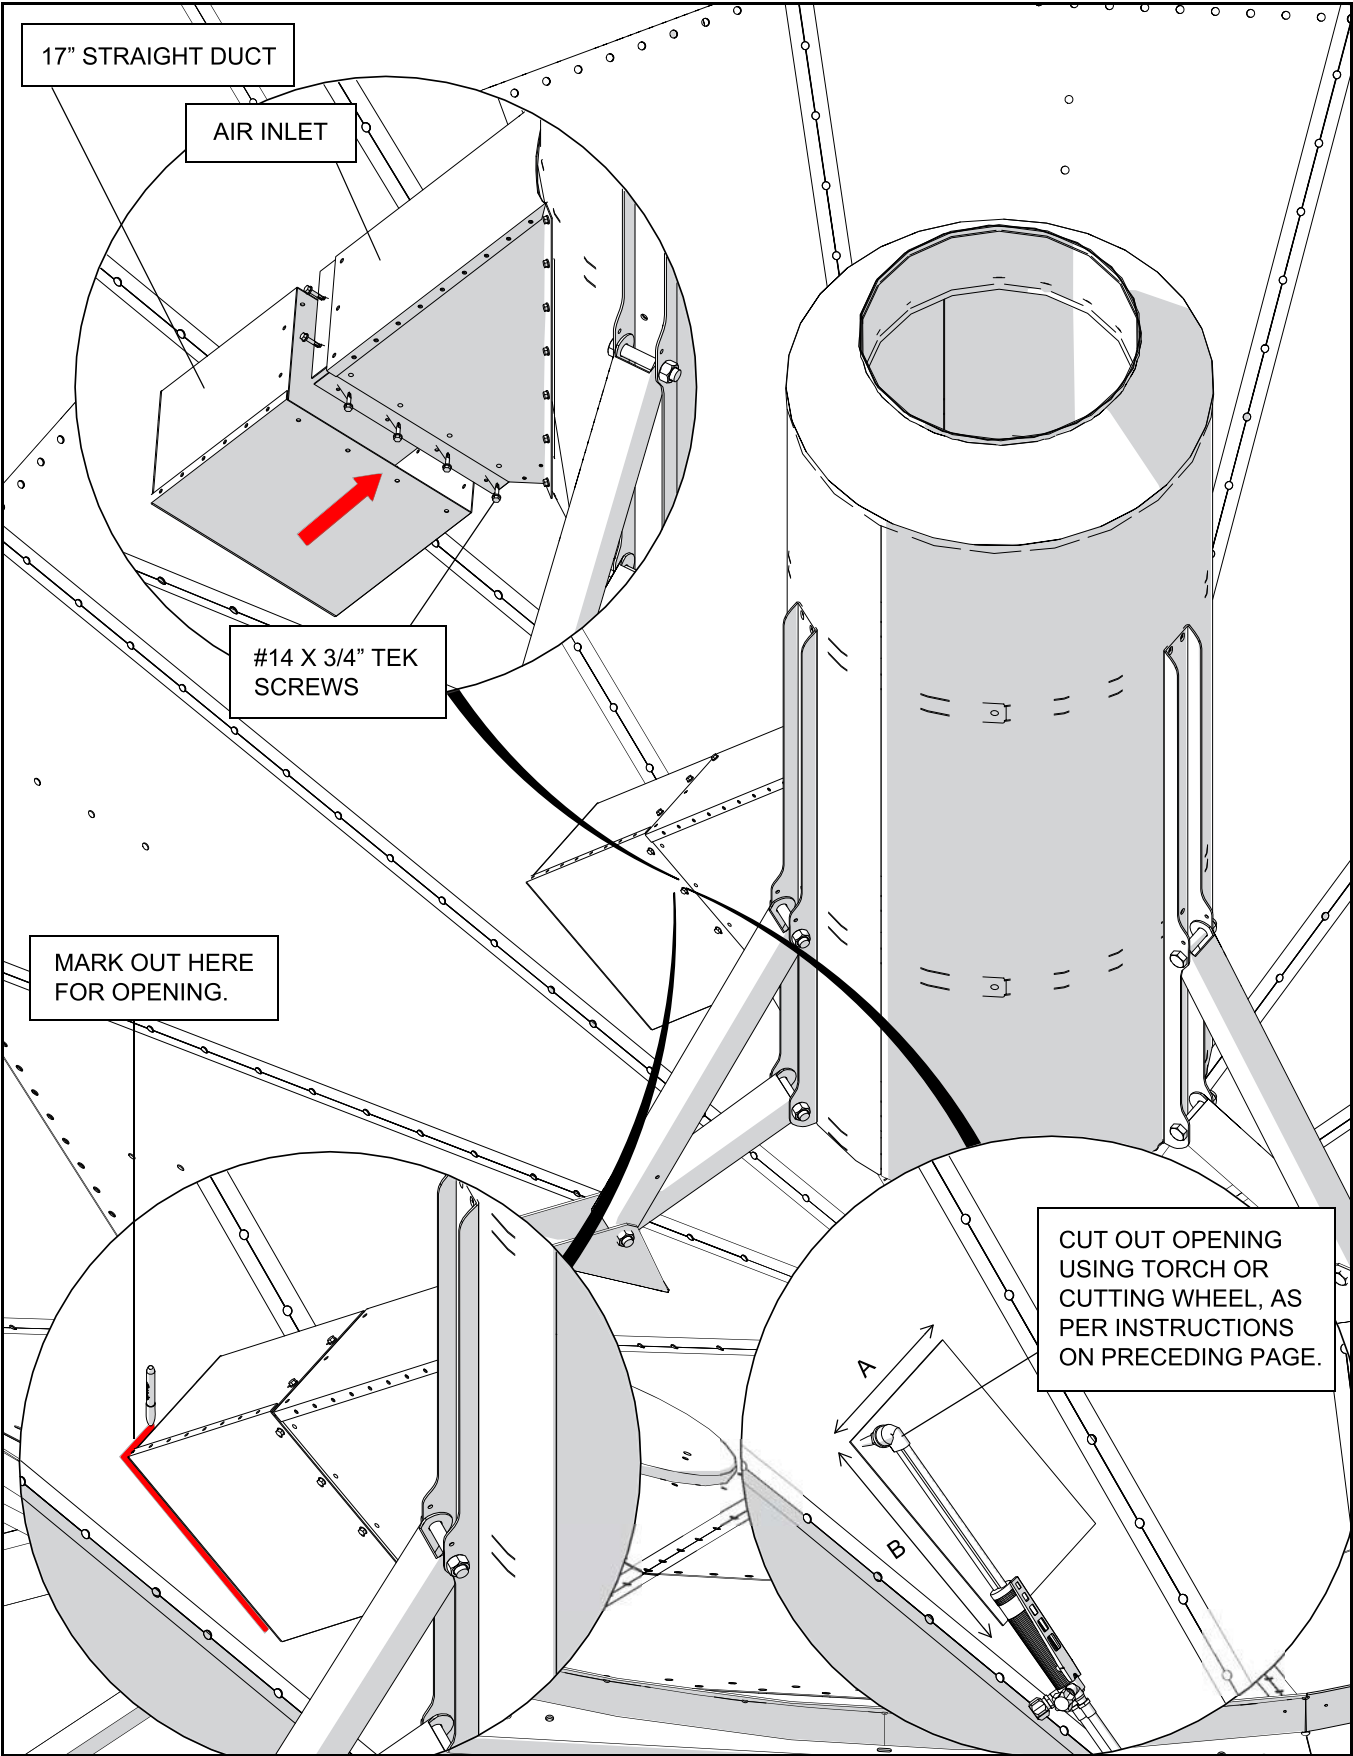

Figure 3.3
4. Secure 17" straight duct to air inlet with twelve #14 x 3/4" tek screws as shown in Figure 3.3. Use four screws on each side and two screws on both the top and bottom of duct.
6. Mark outline of outside of straight duct on hopper cone for inlet opening as shown in Figure 3.3.
Important: *Make cut inside the marked line to help keep the opening as clean as possible. Ensure that the minimum size of hole is 8-7/8" x 13-7/8", and that the maximum size is no larger than 9" x 14". This means dimension A in Figure 3.3 will be between 8-7/8" and 9" long and dimension B in Figure 3.3 will be between 13-7/8" and 14" long.*